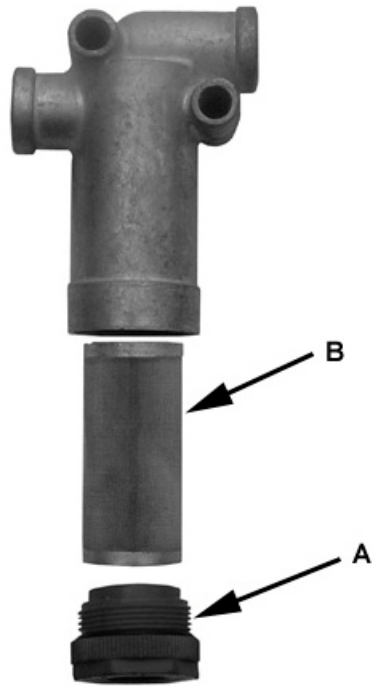

Figure 8-6 Air In-Line Filter
Your trailer is equipped with air inline filters. Filters are mounted on the inside of the frame rail. Every six months, relieve the air pressure in the trailer air tanks and remove the cap (A) and filter screen (B). See figure 8-6. Clean and install filter screen and cap.